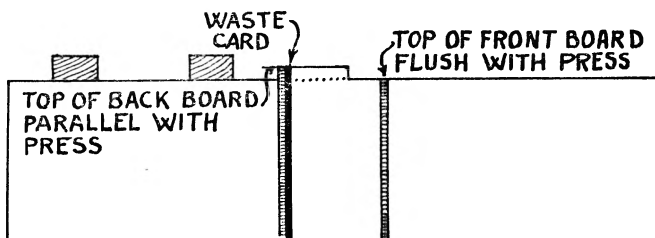

Fig. 68
50. Grip the boards and book firmly and lower into the lying press, with the spine of the book towards the worker, until the top of the front board is exactly level with the cheek of the press, fig. 68. The boards must both be tight up against the groove to ensure that the head will be cut square. The back board should now be projecting above the press and parallel with it. If it is not parallel, grip the lower part of the book and twist it between the fingers and thumb until it is correct, see that the front board does not move